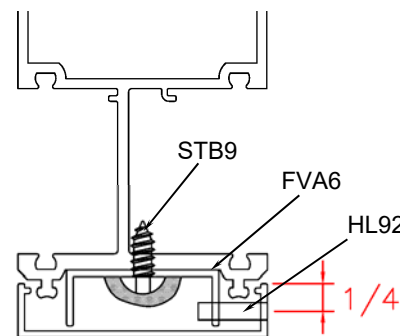

Figure 45
- * Apply a generous amount of sealant to the screw head. (see figure 45)
- * Drill a hole and install .156” x .625” roll pin into cover clip prior to installing the intersecting horizontal covers. (see figure 45)